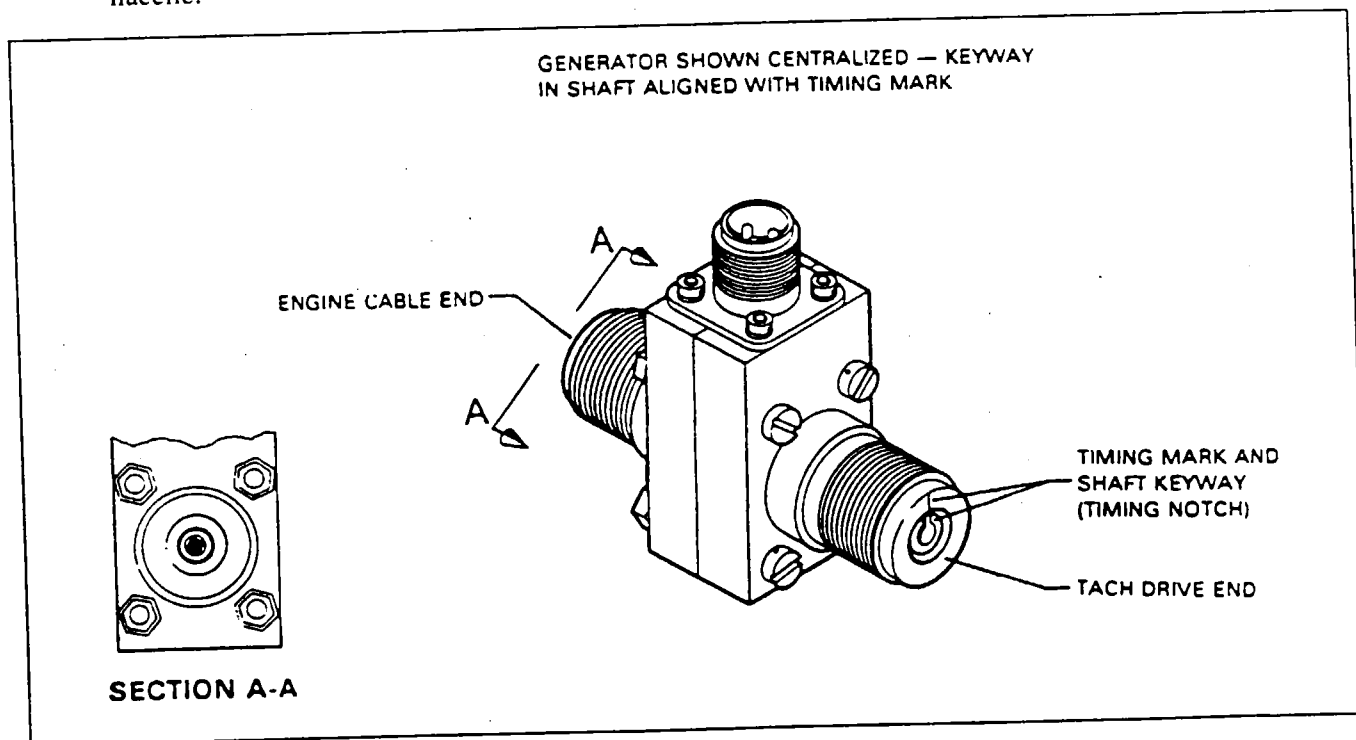

Figure 61-5. Pulse Generator
- 3. Turn the pulse generator counterclockwise to align the timing mark with the center of the keyway. (Refer to Figure 61-5.)
INSTALLATION AND ADJUSTMENT OF PULSE GENERATOR. (Refer to Figure 61-5.)